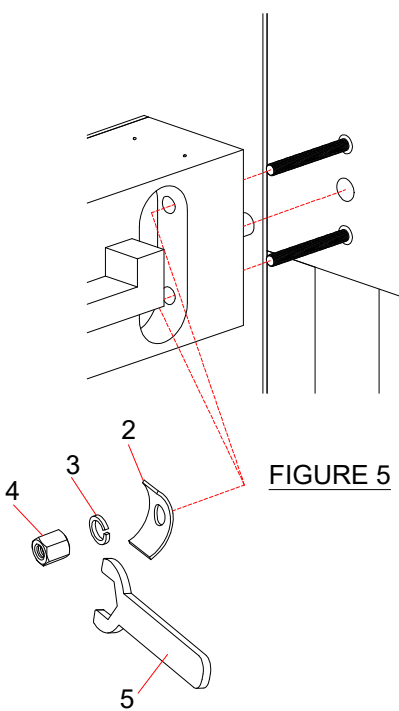
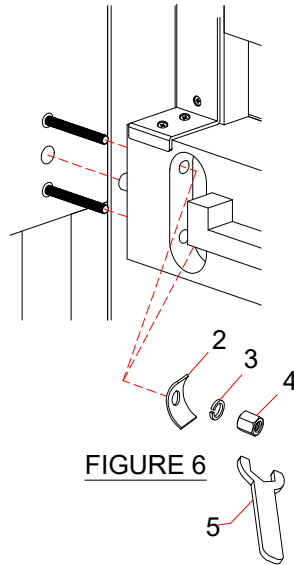

FIGURE 5
FIGURE 6
7. Bring the upper side rail with Guardrail (D&E1) & (D&E2) in upright position and align the threaded rods on the headboard to the corresponding holes in the end of the upper side rail. Attach the upper side rail to the headboard, as in FIGURE 5, FIGURE 6. Insert screw (10) provided to pass through hole on metal bracket of upper side rail to the pre-drill hole on headboard, as in FIGURE 7-A, FIGURE 7-B. **KEEP HOLDING THIS SIDE RAIL DURING NEXT STEP.**
Lock the drawer to the runner by pushing the black plastic peg on the runner in. See detail FIGURE 5.